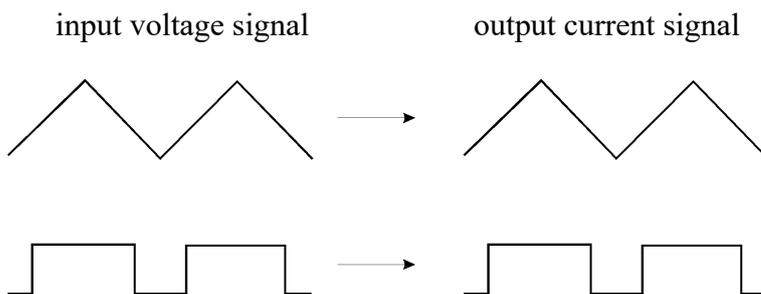

Figure 3: input-output relation using STIMULUS INPUT
(23) STIMULUS INPUT 1 nA/V connector
Analog input BNC connector for applying signals from an external stimulus source. The voltage signal that is connected here is transformed to a proportional current at the electrode with a sensitivity of 1 nA/V, i.e. an input voltage of 5 V is transformed to an output current of 5 nA (if switch (9) is set to x1). The signal form remains unchanged. Two examples are given in Figure 3. The amplitude of the output current signal (CURRENT STIMULUS) is determined by the amplitude of the input voltage signal.
(24) STIMULUS INPUT 0.1 nA/V connector
Analog input BNC connector for applying signals from an external stimulus source. The voltage signal that is connected here is transformed to a proportional current at the electrode with a sensitivity of 0.1 nA/V, i.e. an input voltage of 5 V is transformed to an output current of 0.5 nA (if switch (9) is set to x1). The signal form remains unchanged (see also 23 and Figure 3).